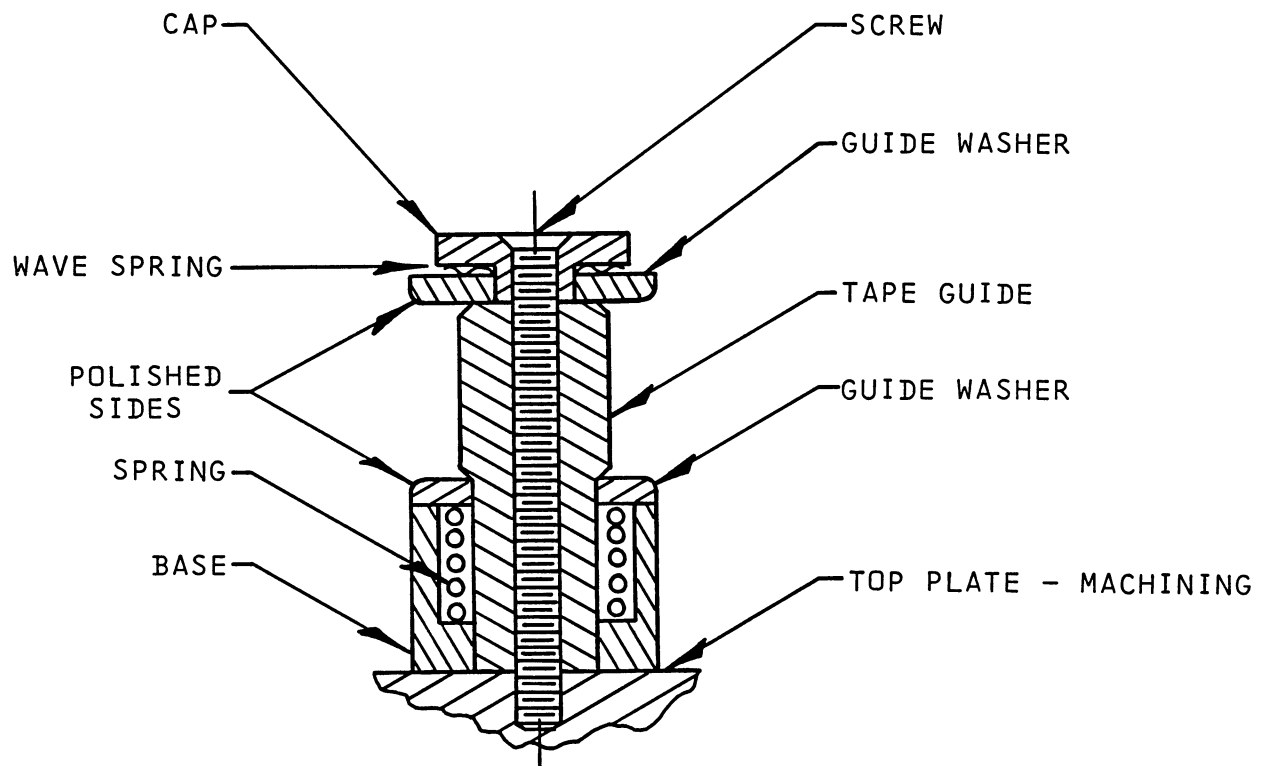

Figure 5-2. Single-Edge Tape Guide
5-17. SINGLE-EDGE TAPE GUIDE. To replace a damaged or worn single-edge tape guide (Figure 5-2) or one of its parts, proceed as follows:
- c. Replace defective part, reassemble parts in accordance with Figure 5-2, and secure to base plate with mounting screw. No adjustment is required. Be sure guide mounting surface is free of burrs and debris which could keep guide from seating solidly on machined casting surface. Note that sapphire washer has only one polished surface, which must be surface against which tape rides.